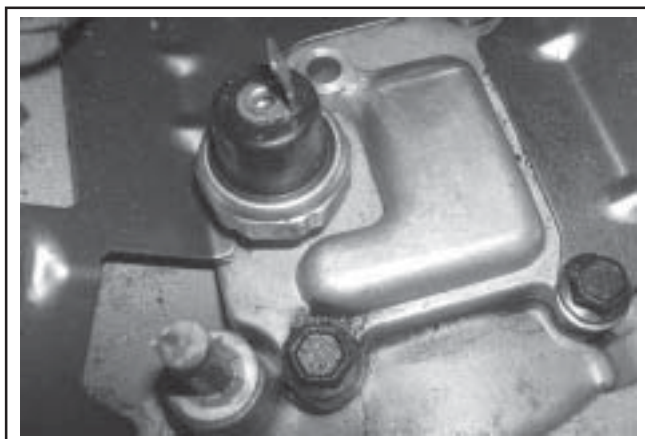

Figure 11-63. Oil Sentry™ Switch (Some Models).
1. Apply pipe sealant with Teflon® (Loctite® No. 59241 or equivalent) to the threads of the Oil Sentry™ switch and install it into the breather cover. See Figure 11-63. Torque to **4.5 N·m (40 in. lb.)**.